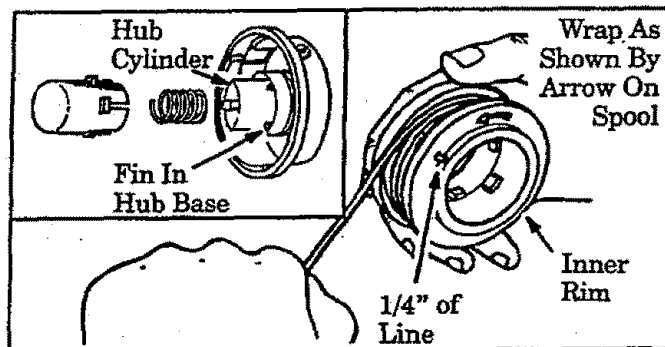

Figure 18
- Place the spring in the hub cylinder. Figure 18 (inset).
- Align the slots in the tap button with the fins in the base of the hub. Figure 18 (inset). Push parts together.
- 3.) Insert about 1/4 inch of the end of the line through the hole in the inner rim of the Spool. Figure 18. Allow no more than 1/2 inch of line to extend beyond the rim to avoid interference with tapping action.
- 4.) Wrap the line onto the spool as shown by the arrow. Figure 18.